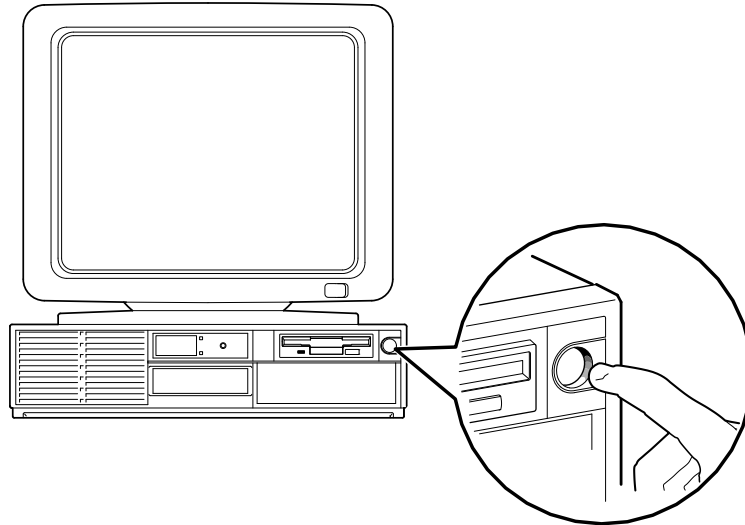

Figure 2-5 Starting Your System
1. Turn on the system unit power, monitor power, and any external devices. Figure 2-5 shows the location of the system unit power button.